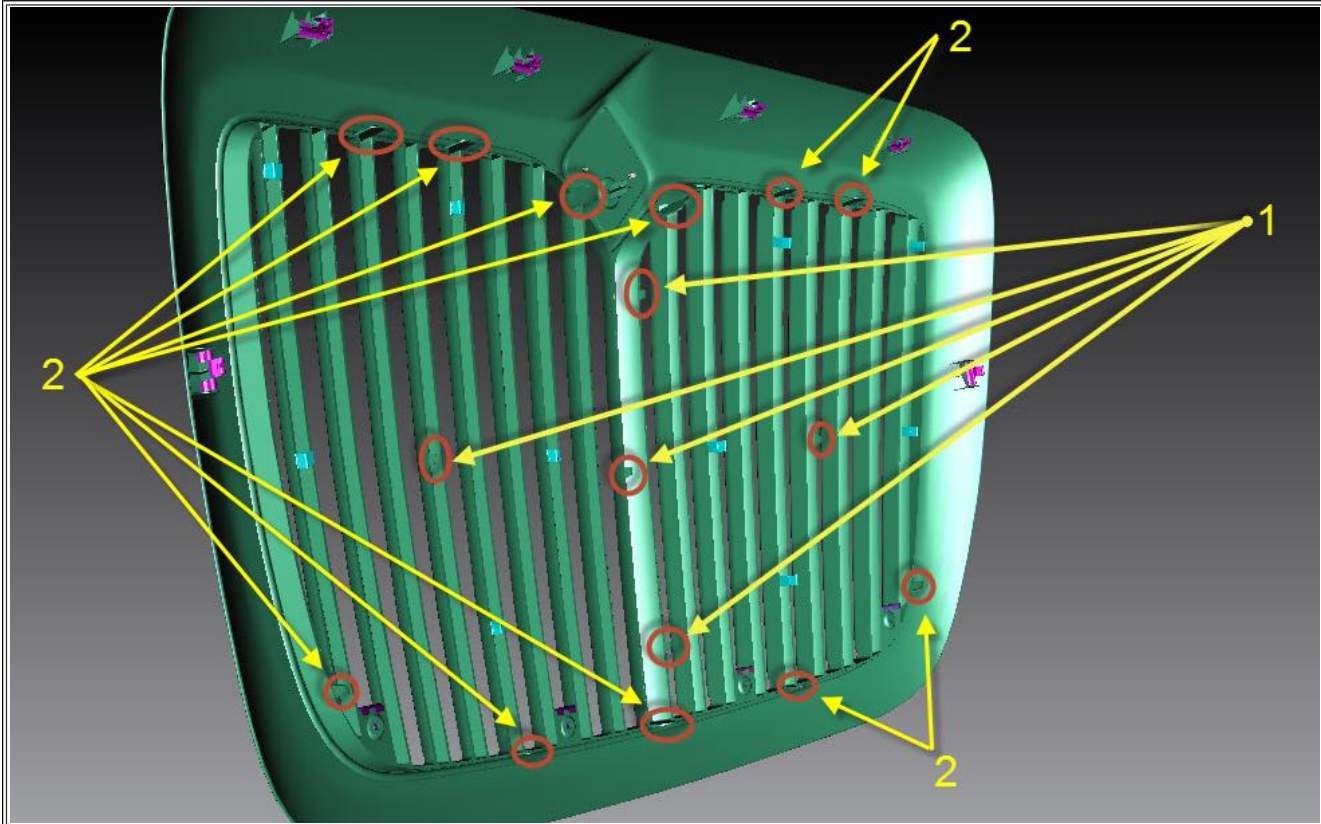

Figure 1: Grille with clip callout
1. Add additional clips to the 5 mounting tabs with missing clips (see Figure 1 showing clip locations). Replace bug screen if bent or broken.
2. If the A/C condenser is damaged/punctured and it causes the A/C system to be inoperable, follow instructions for removal/replacement in the **9900, PayStar, ProStar, TranStar, WorkStar Heavy Duty (HD) Radiator / Cooling System Service Manual** (0000628059).